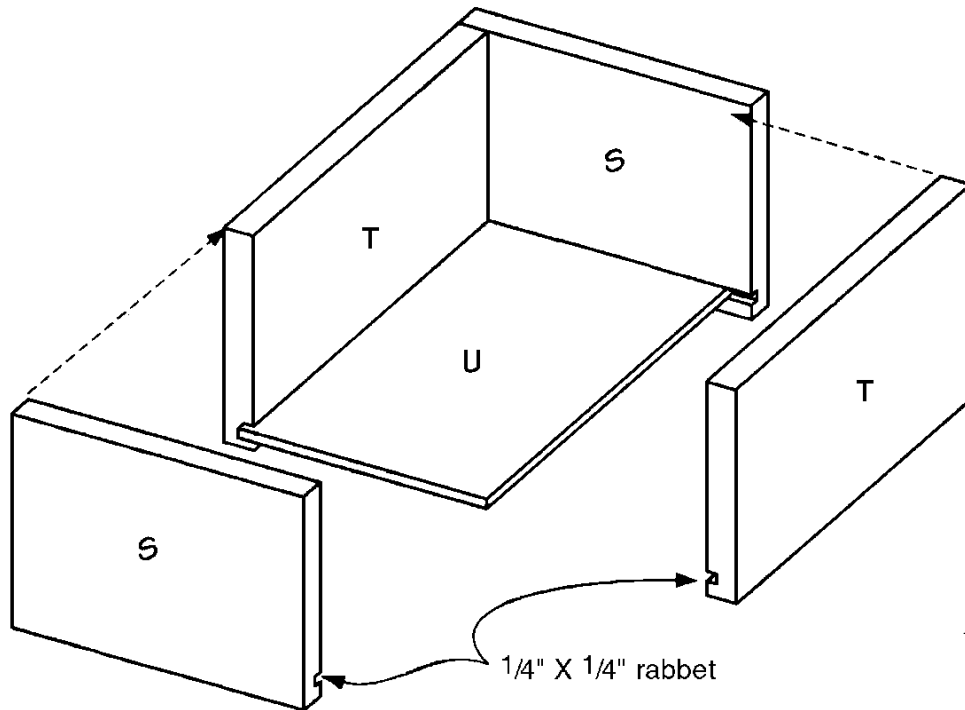

Figure 10
There are four identical drawers in this buffet. All four are constructed as shown in the assembly diagram in *Figure 10*.
1. Cut eight drawer front/back (S) from 1 x 6 pine, each measuring 7-1/2 inches long.
2. Cut eight drawer sides (T) from 1 x 6 pine, each measuring 10-1/2 inches long.
4. Cut four drawer bottoms (U) from 1/4-inch plywood, measuring 6-3/8 x 10-3/8 inches.
5. Assemble one drawer as shown in *Figure 10*. Note that the drawer front/back pieces (S) overlap the ends of the drawer sides (T). Use three 2-inch (6d) finishing nails on each end of the overlapping boards. The drawer front (V) will be added later.
6. Repeat the drawer assembly three times using the remaining six drawer front/back (S), the six drawer sides (T), and the three drawer bottoms (U).